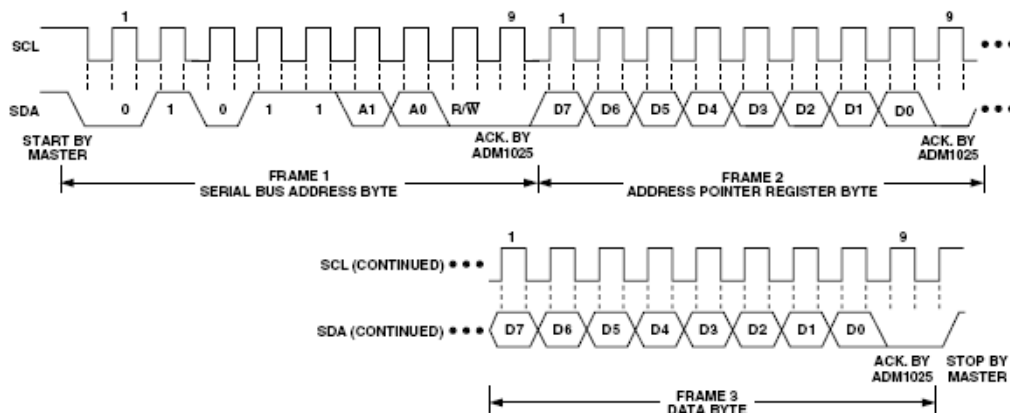
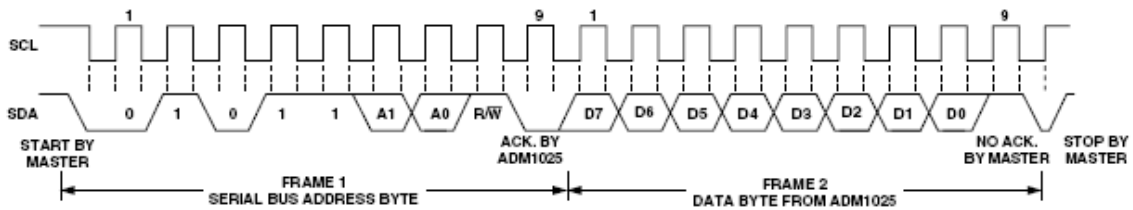

Figure 11. Writing a Register Address to the Address Pointer Register, then Writing Data to the Selected Register
Figure 13. Reading Data from a Previously Selected Register
This is illustrated in Figure 11. The device address is sent over the bus followed by R/W set to 0. This is followed by two data bytes. The first data byte is the address of the internal data register to be written to, which is stored in the Address Pointer Register. The second data byte is the data to be written to the internal data register.
2. In Figure 11 to Figure 13, the serial bus address is shown as the default value 01011(A1)(A0), where A1 and A0 are set by the three-state ADD pin.